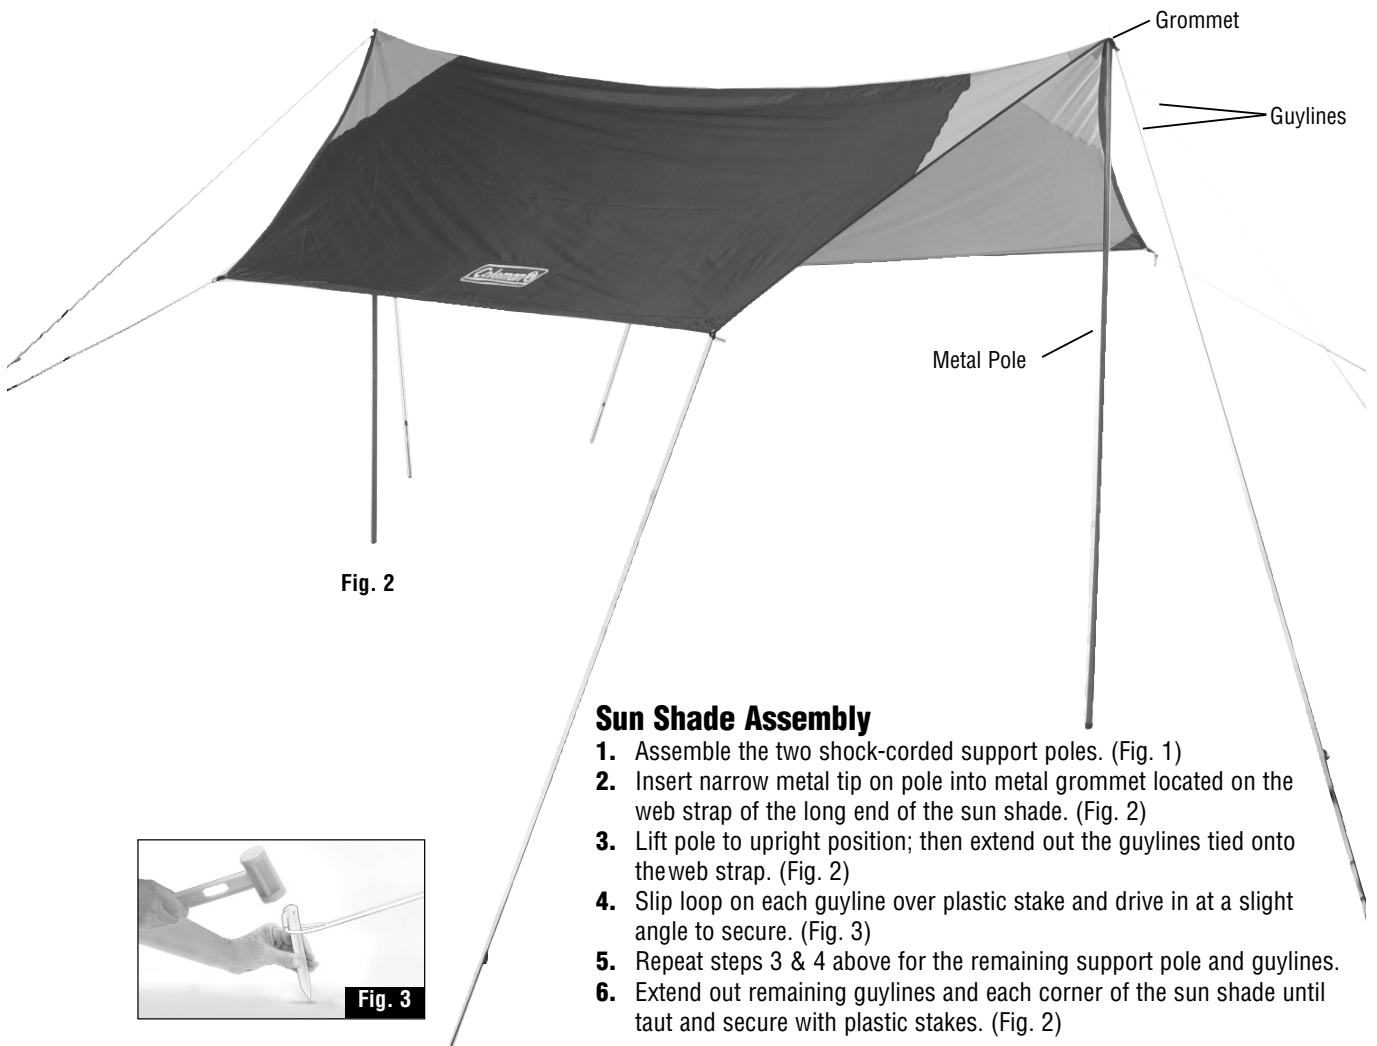

Fig. 2
2. Insert narrow metal tip on pole into metal grommet located on the web strap of the long end of the sun shade. (Fig. 2)
3. Lift pole to upright position; then extend out the guylines tied onto the web strap. (Fig. 2)
6. Extend out remaining guylines and each corner of the sun shade until taut and secure with plastic stakes. (Fig. 2)